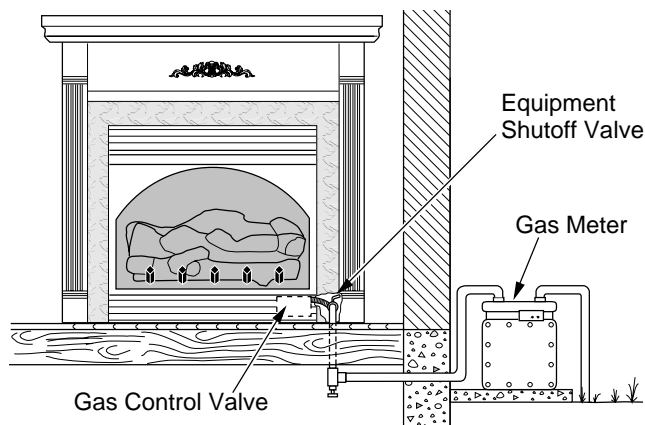

Figure 22 - Checking Gas Joints for Natural Gas
3. Check all joints from gas meter to equipment shutoff valve for natural gas or propane/LP supply to equipment shutoff valve for propane/LP (see Figures 22 and 23, page 14). Apply noncorrosive leak detection fluid to all joints. Bubbles forming show a leak.
4. Check all joints from equipment shutoff valve to gas control valve (see Figures 22 or 23, page 14). Apply noncorrosive leak detection fluid to all joints. Bubbles forming show a leak.